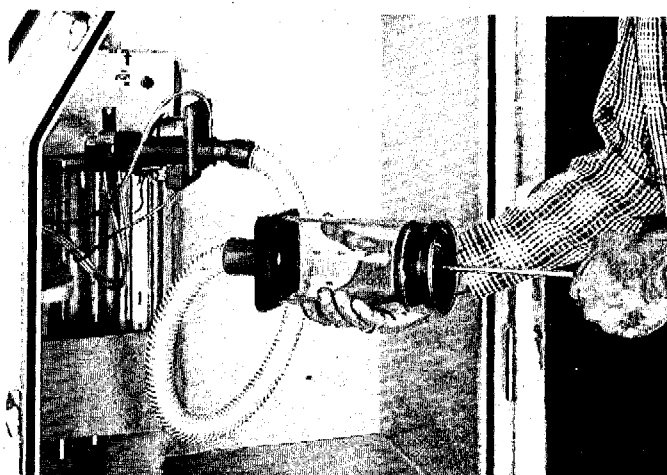

Figure 22 - Connecting Syringe to Pneumotachograph
E.13. Refer to Figure 22. Connect one end of the long hose to the mouth shutter opening and the other end to the syringe. Pull the syringe handle fully back.